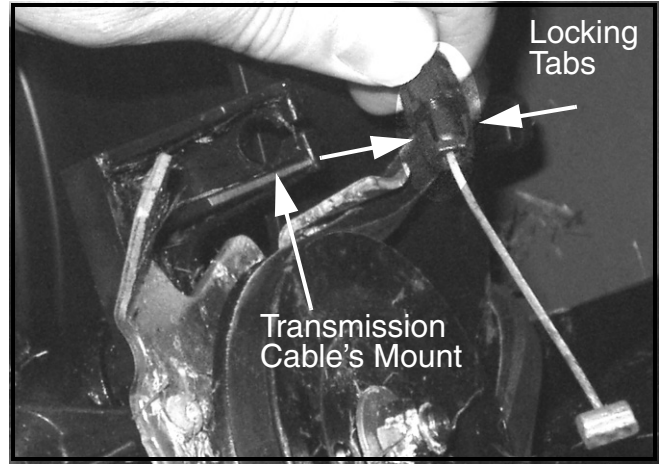

FIGURE 17
39. With two thin flat blade screw drivers, carefully compress the two locking tabs on the transmission cable's end fitting and slide the fitting back out of the transmission cable's mount on the transmission bracket. See Figure 17.
55. Insert the locking tabs end of the drive cable into the drive cable socket on the transmission's cable mount. Refer to Figure 17.